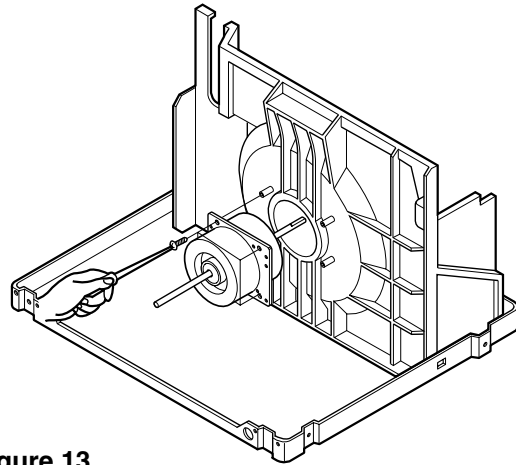

Figure 13
4. Remove the 4 screws which fasten the motor to the air guide. (See Figure 13)
6. Re-install the components by referring to the removal procedure, above.(See Figure 13)